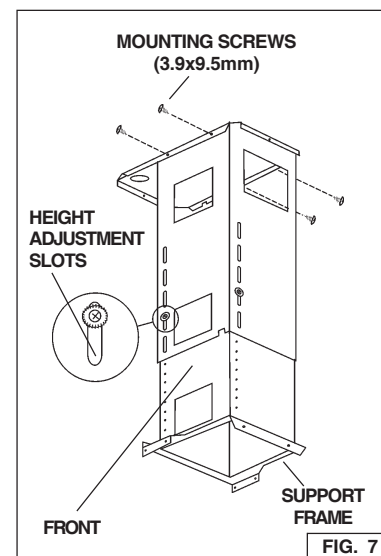

FIG. 7
4. Fix the support frame to the support frame bracket with (4) 3.9x9.5mm mounting screws. Fig. 7.